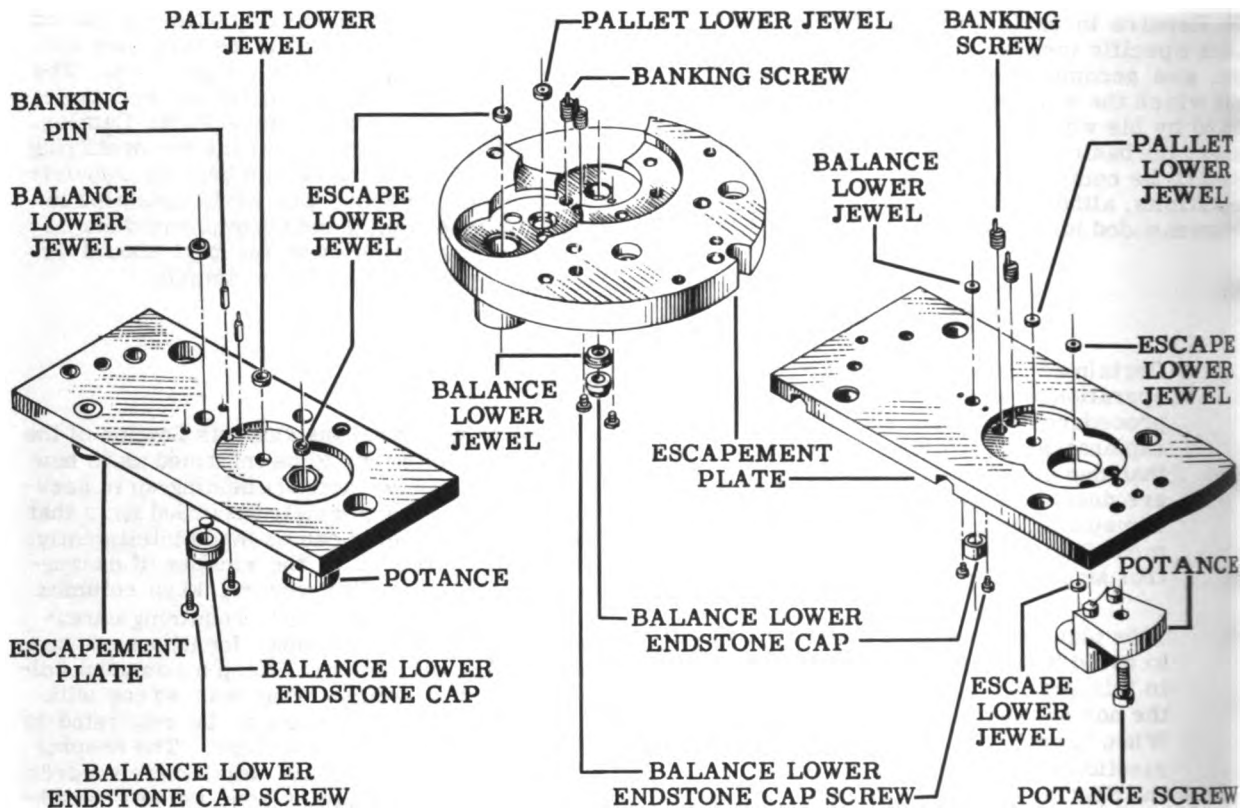

Figure 72—Escapements
1. From the escapement plate assembly, unscrew the two balance lower endstone cap screws and remove the balance lower endstone cap. See Fig. 72.